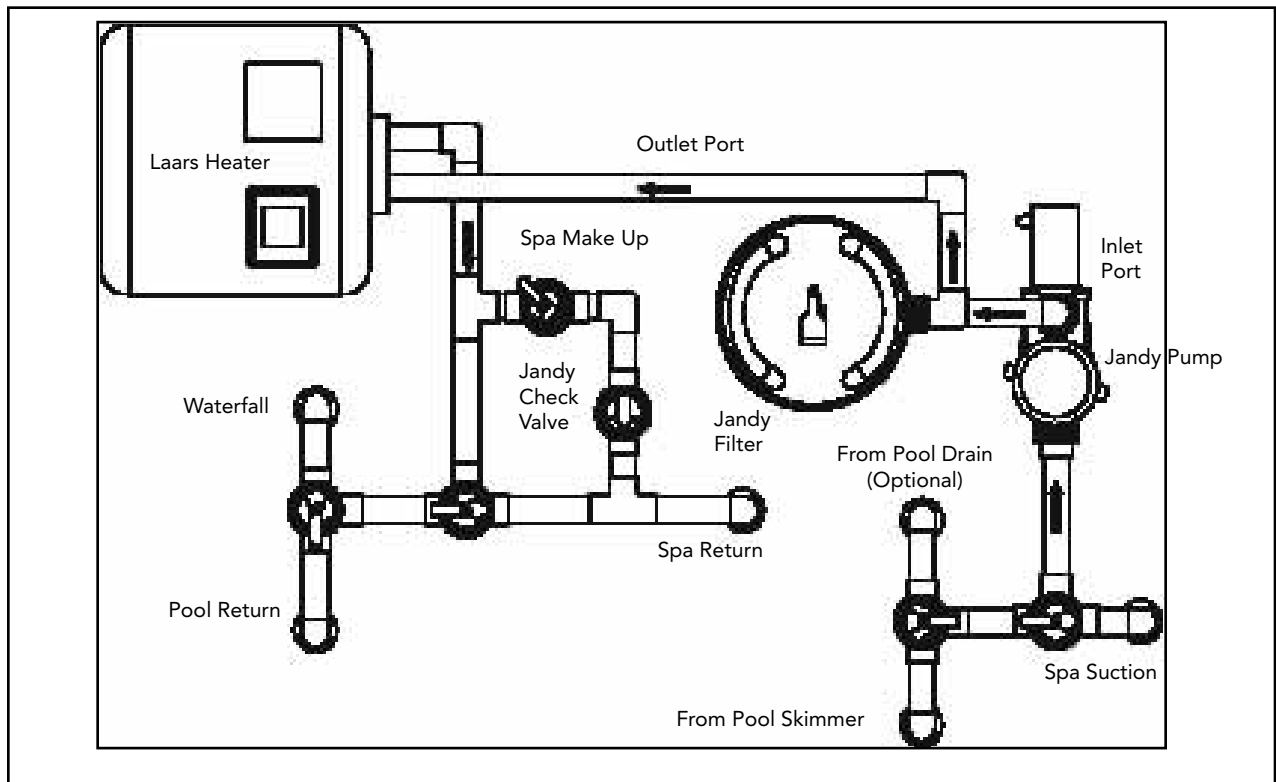

Figure 4- Basic Pool/Spa Combination Plumbing
3. Place the filter on the concrete pad, lined up with the inlet/outlet pipes (see Fig. 4).